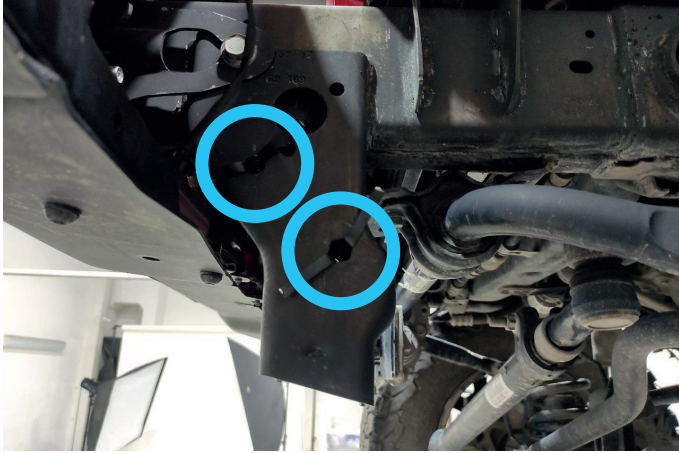

Fig. 4
5. Install insert nut M10 with wires (item 7), as shown in fig.4.